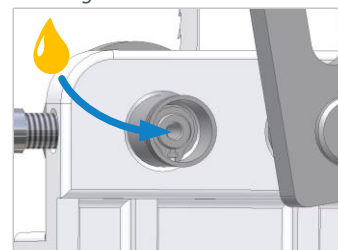

Figure 55: Oil APA back roller
- Unscrew the sealing cap from the back roller bearing (⇒ Figure 55).